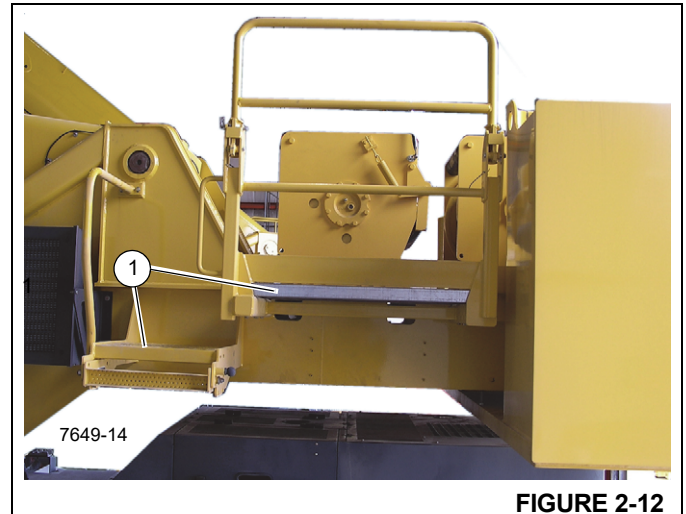

FIGURE 2-12
Use the hoist access platform (1) (Figure 2-12) when working in the hoist area (Fixed counterweight units only).